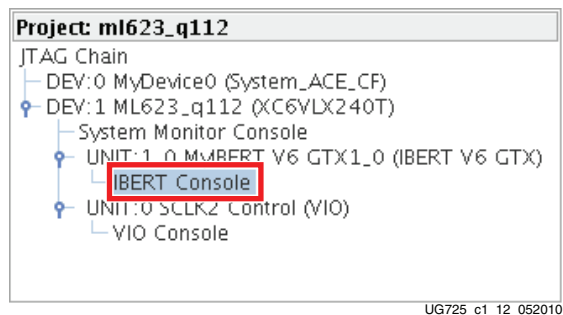

Figure 1-12: IBERT Console Selection
3. In the project panel, double-click **IBERT Console** (Figure 1-12).